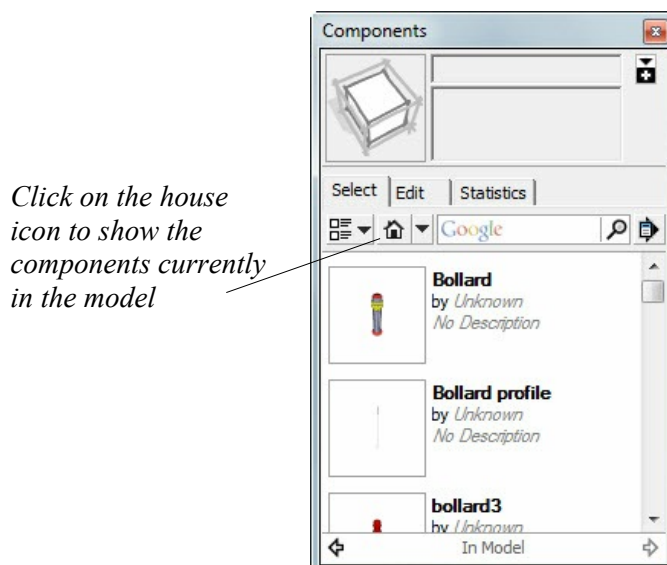

Figure 90. The Components dialogue box
- Use **WINDOW/Components** and the Components dialogue box will appear as shown in Figure 90.